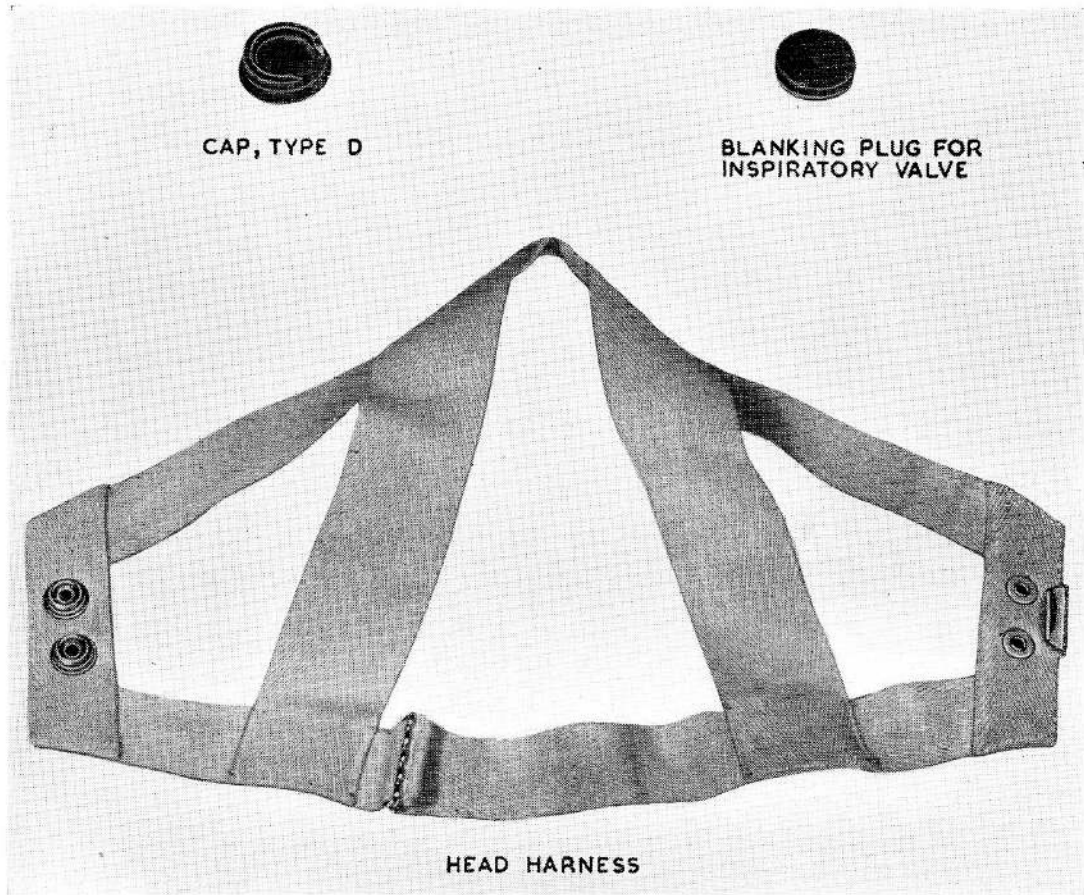

Fig. 5. Type H mask accessories
8. When the mask is used with the economiser system below heights at which pure oxygen is required, the wearer empties the bag in the economiser unit in about half a breath and, as he continues to inhale, air is drawn in through the inspiratory valve. Since in the American diluter system the oxygen and air are mixed in the regulator, the inspiratory valve is not required and must be replaced by a blanking off plug (fig. 5); this conversion is ESSENTIAL
14. An orifice cap, Type D (*fig. 5*) is available to cover the microphone when it is to be used without moving the microphone switch. There may also be occasions when the mask is required to be used without a microphone, and on such occasions a wooden blanking-off plug is to be manufactured and fitted locally; the cap, Type D, is to be fitted over the blanking-off plug.
16. To enable the mask to be worn without a helmet, a head harness is available (*fig. 5*). This is placed over the head and fitted to the strap assembly, after it has been adjusted for size, with similar attachments to those provided on the helmet.